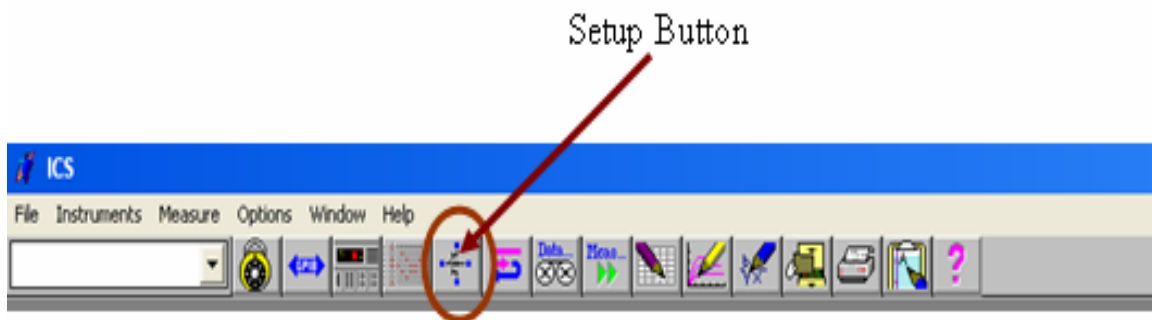

Figure 9: Setup Editor icon on menu bar
5. To see the arrangement of the probe connections on the MOS, click on the Setup Editor icon on the menu bar, shown in Figure 9.